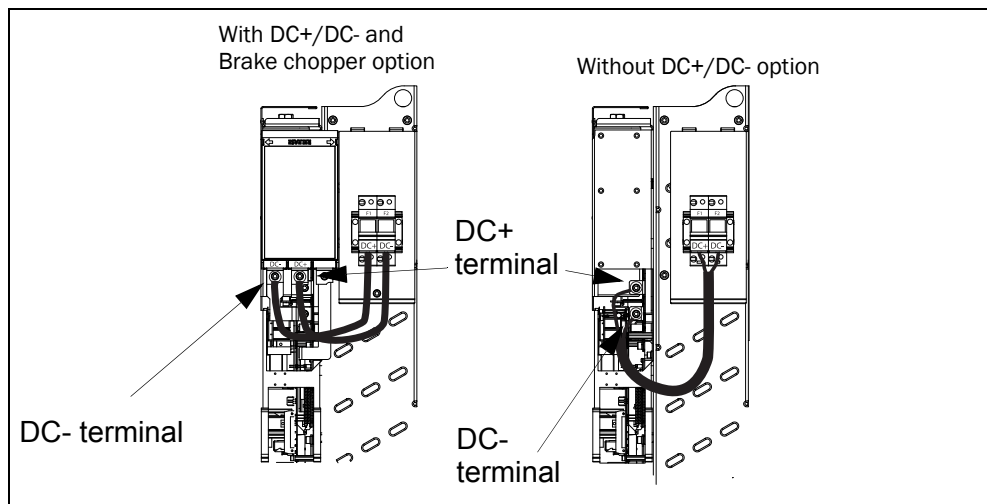

Fig. 2 DC fuses cable connection on size G and up
- Connect the cables (included in delivery) between the DC fuse holder and the DC+/DC- terminals see Fig. 2.